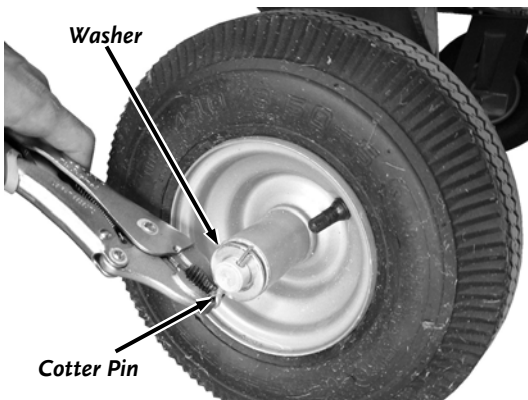

Figure 53
2. Remove the Cotter Pin with Locking Pliers or Needle Nose Pliers (**Figure 53**).